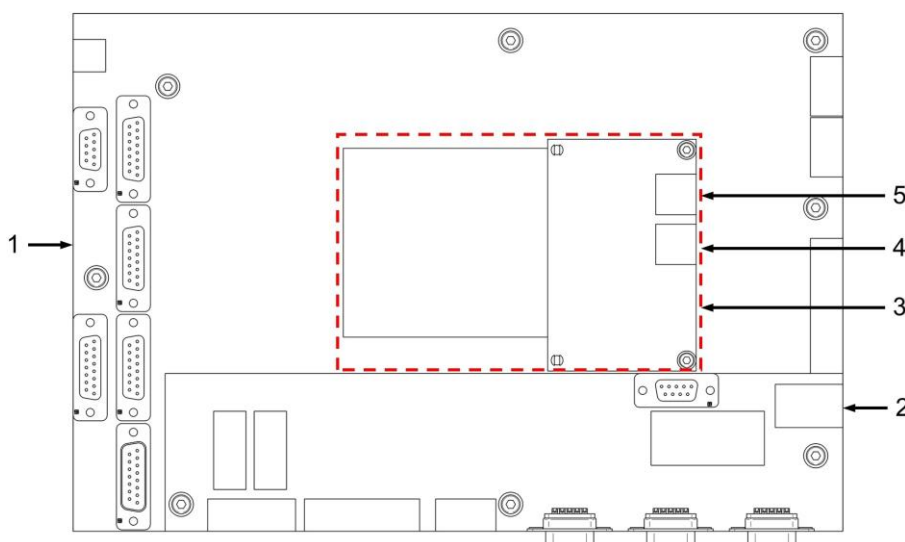

Figure 15: Connection data communication
- Connect** the cables according to Figure 15.